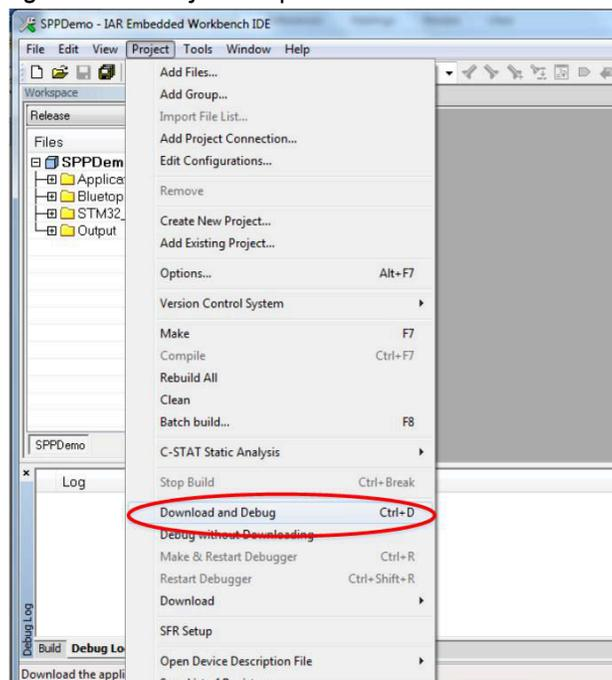

Figure 7-2. Download and Debug
8. Select *Download and Debug* from the *Project* drop-down menu or click the *Play* icon. (See Figure 7-2.)